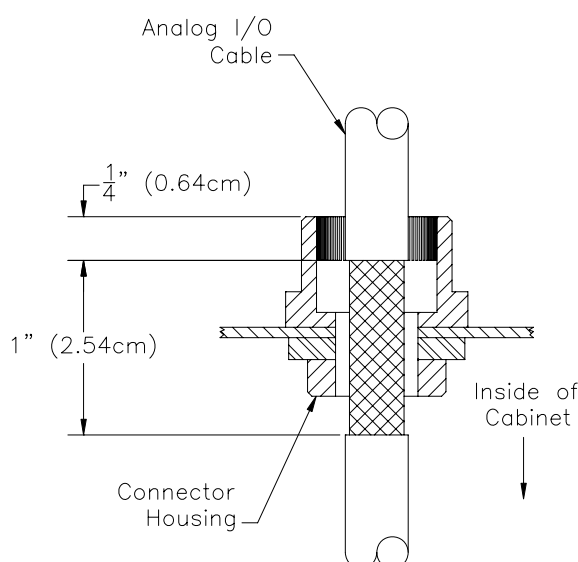

Figure 15: I/O Cable Stripping
2. Route the desired length of I/O cable through the connector housing and mark 1-inch span of cable that passes through connector housing to be stripped to braid (see Figure 15).